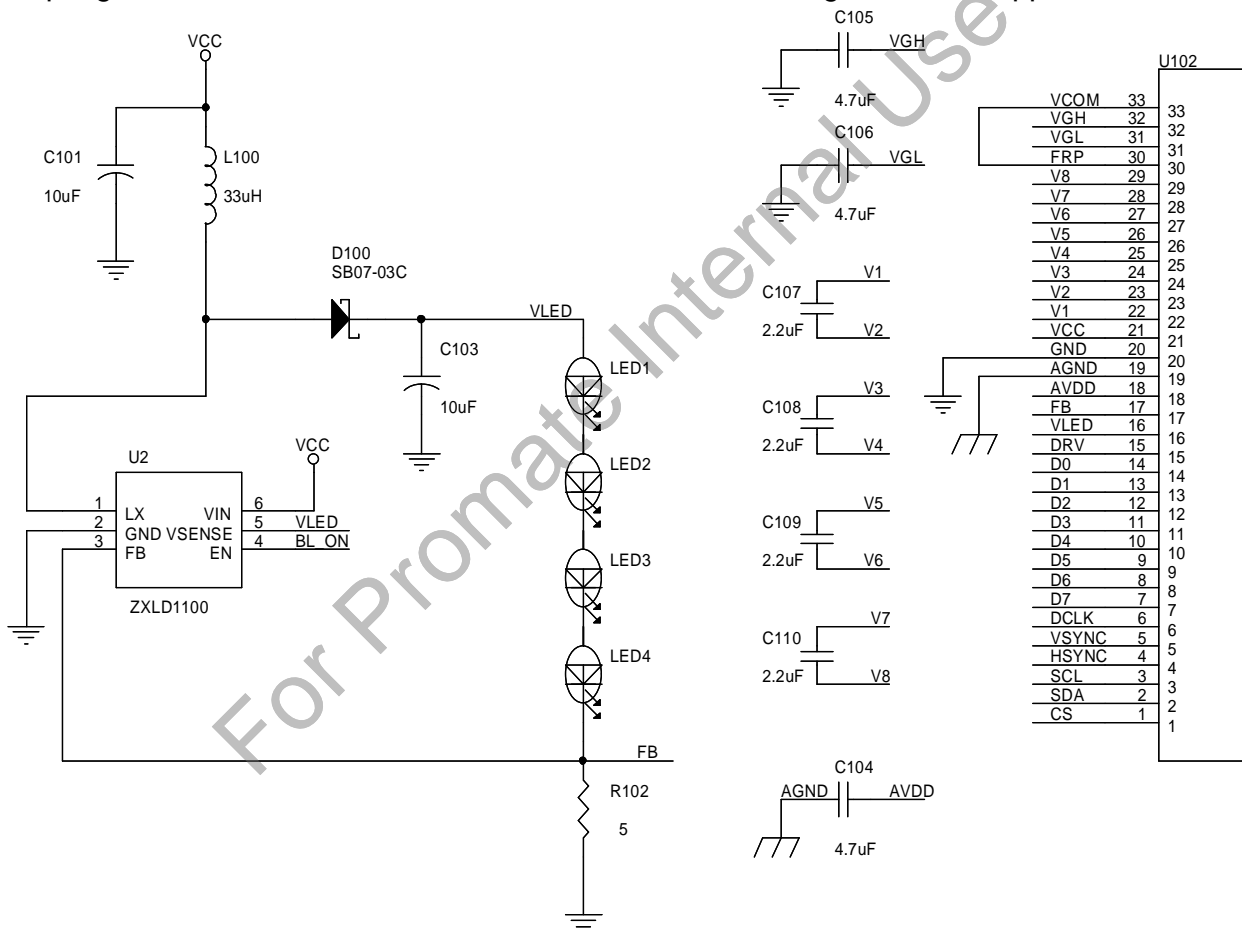

Fig.12 External LED driver Circuit
Using external LED driver circuit is the best way to reduce the wave like phenomenon, Adopting external LED driver circuit is recommended , See Fig. 12 for the application circuit.
According to Fig. 12,the LED driver(ZXLD1100) and R102(5 ohm) with 0.1V feedback (FB) can provide a constant 20mA current for LED backlight unit.To control the back light on/off timing,user should create a control signal BL_ON(please refer to the ZXLD1100 date